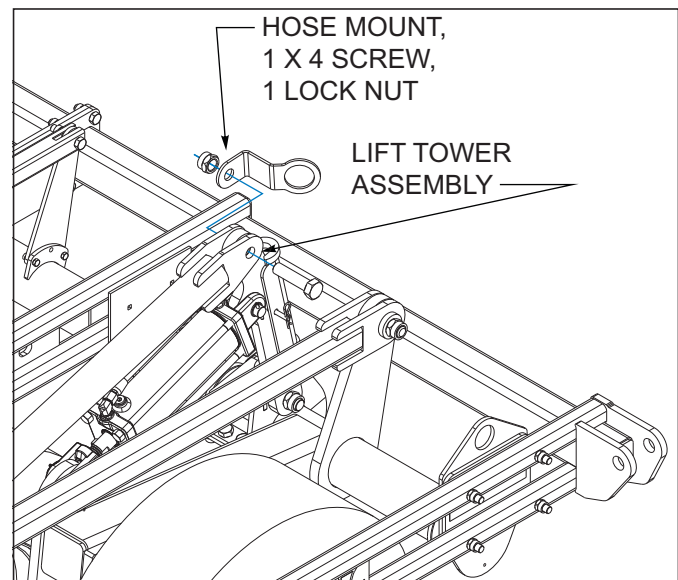
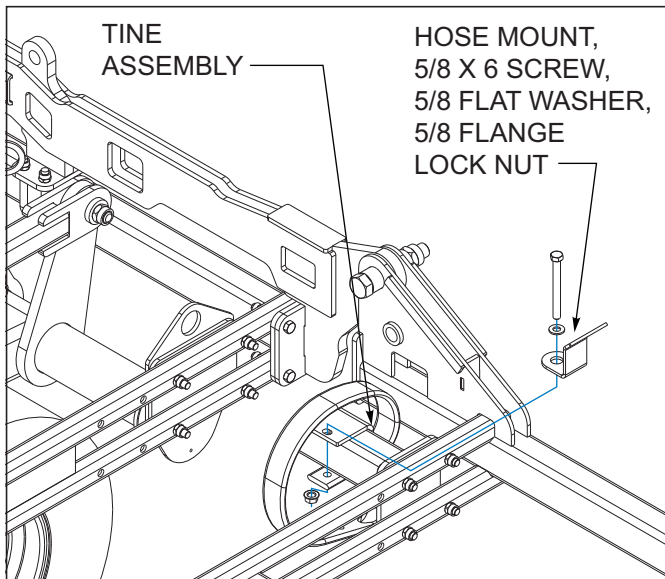
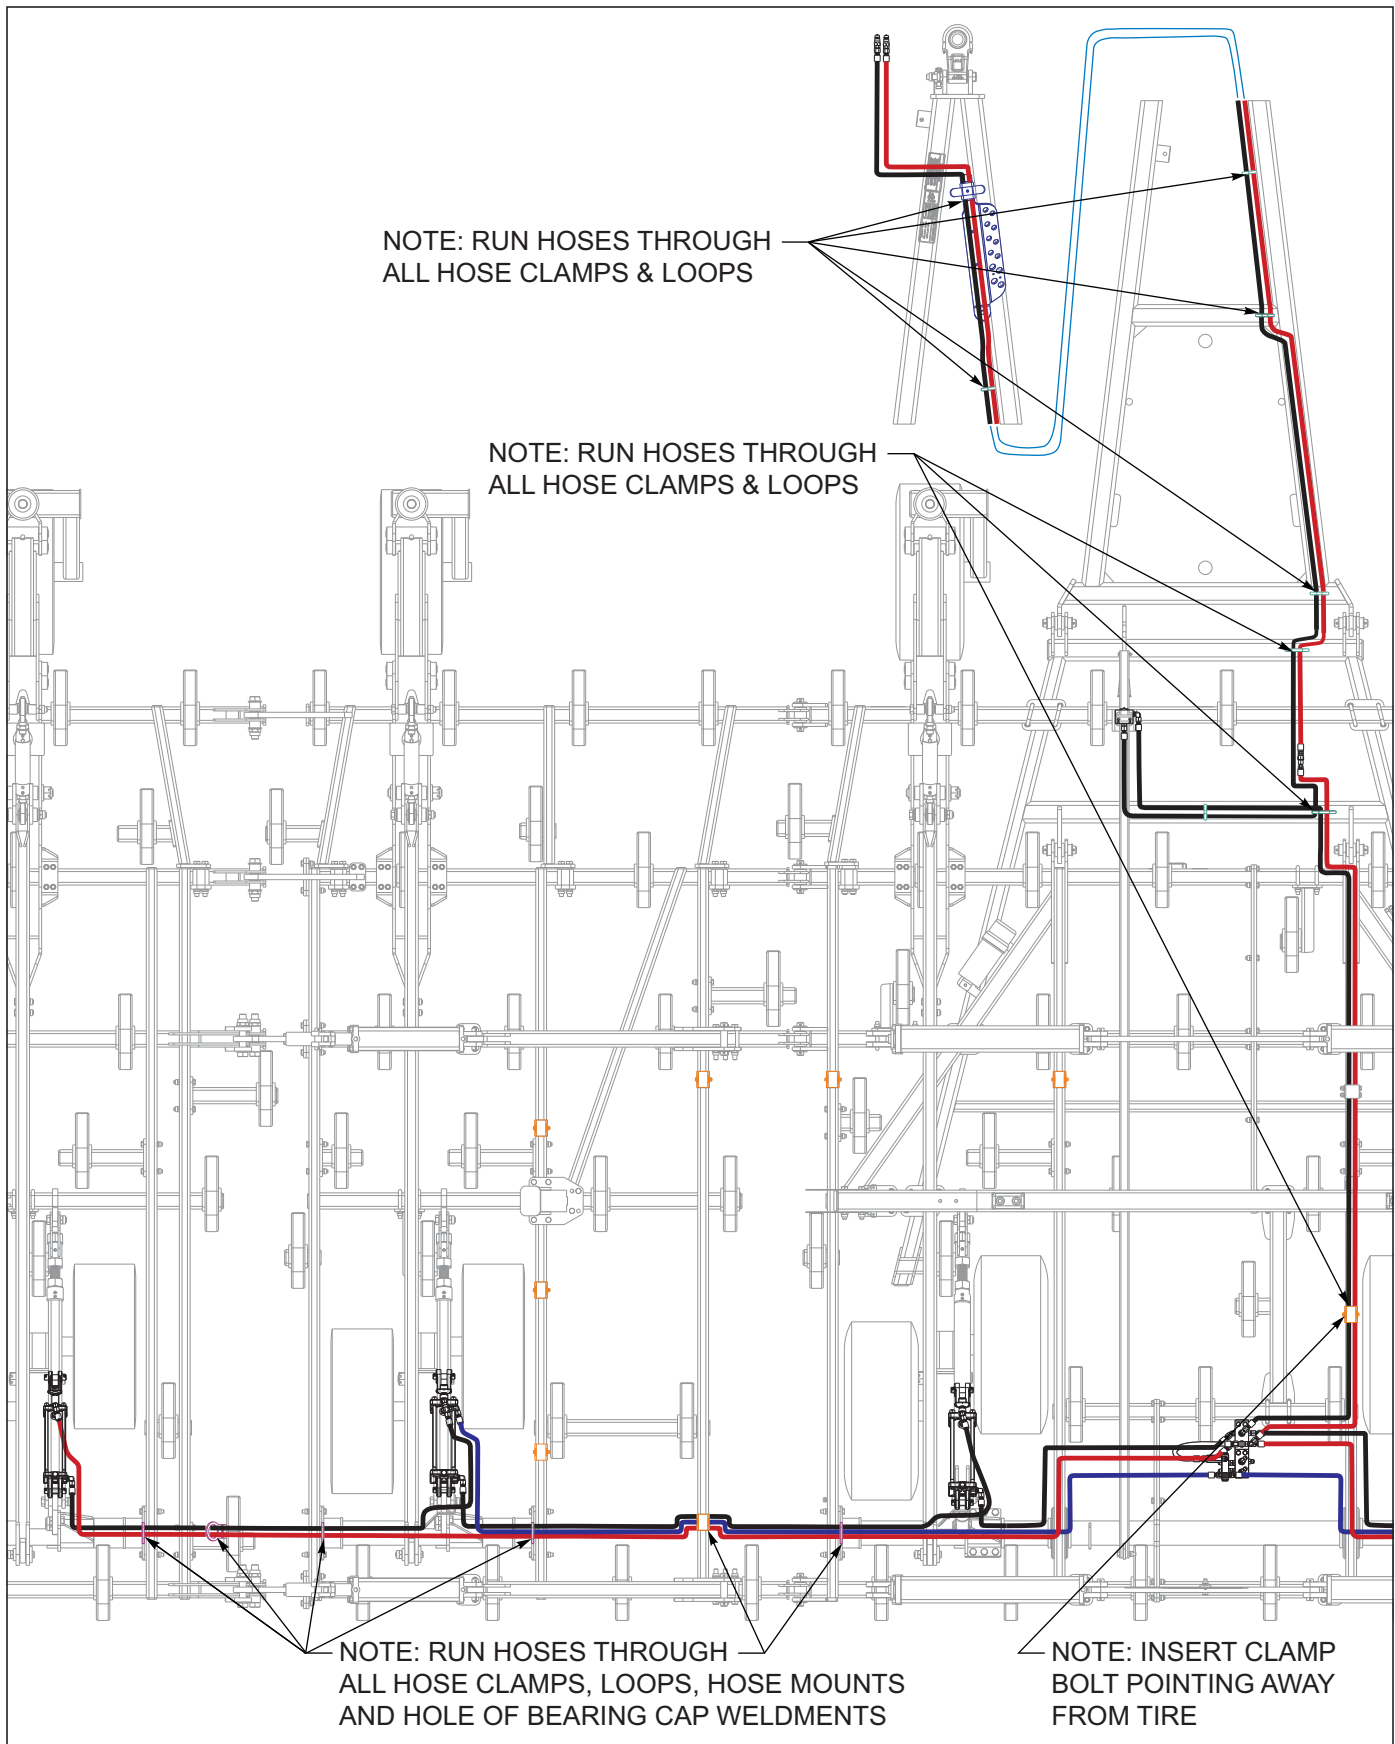
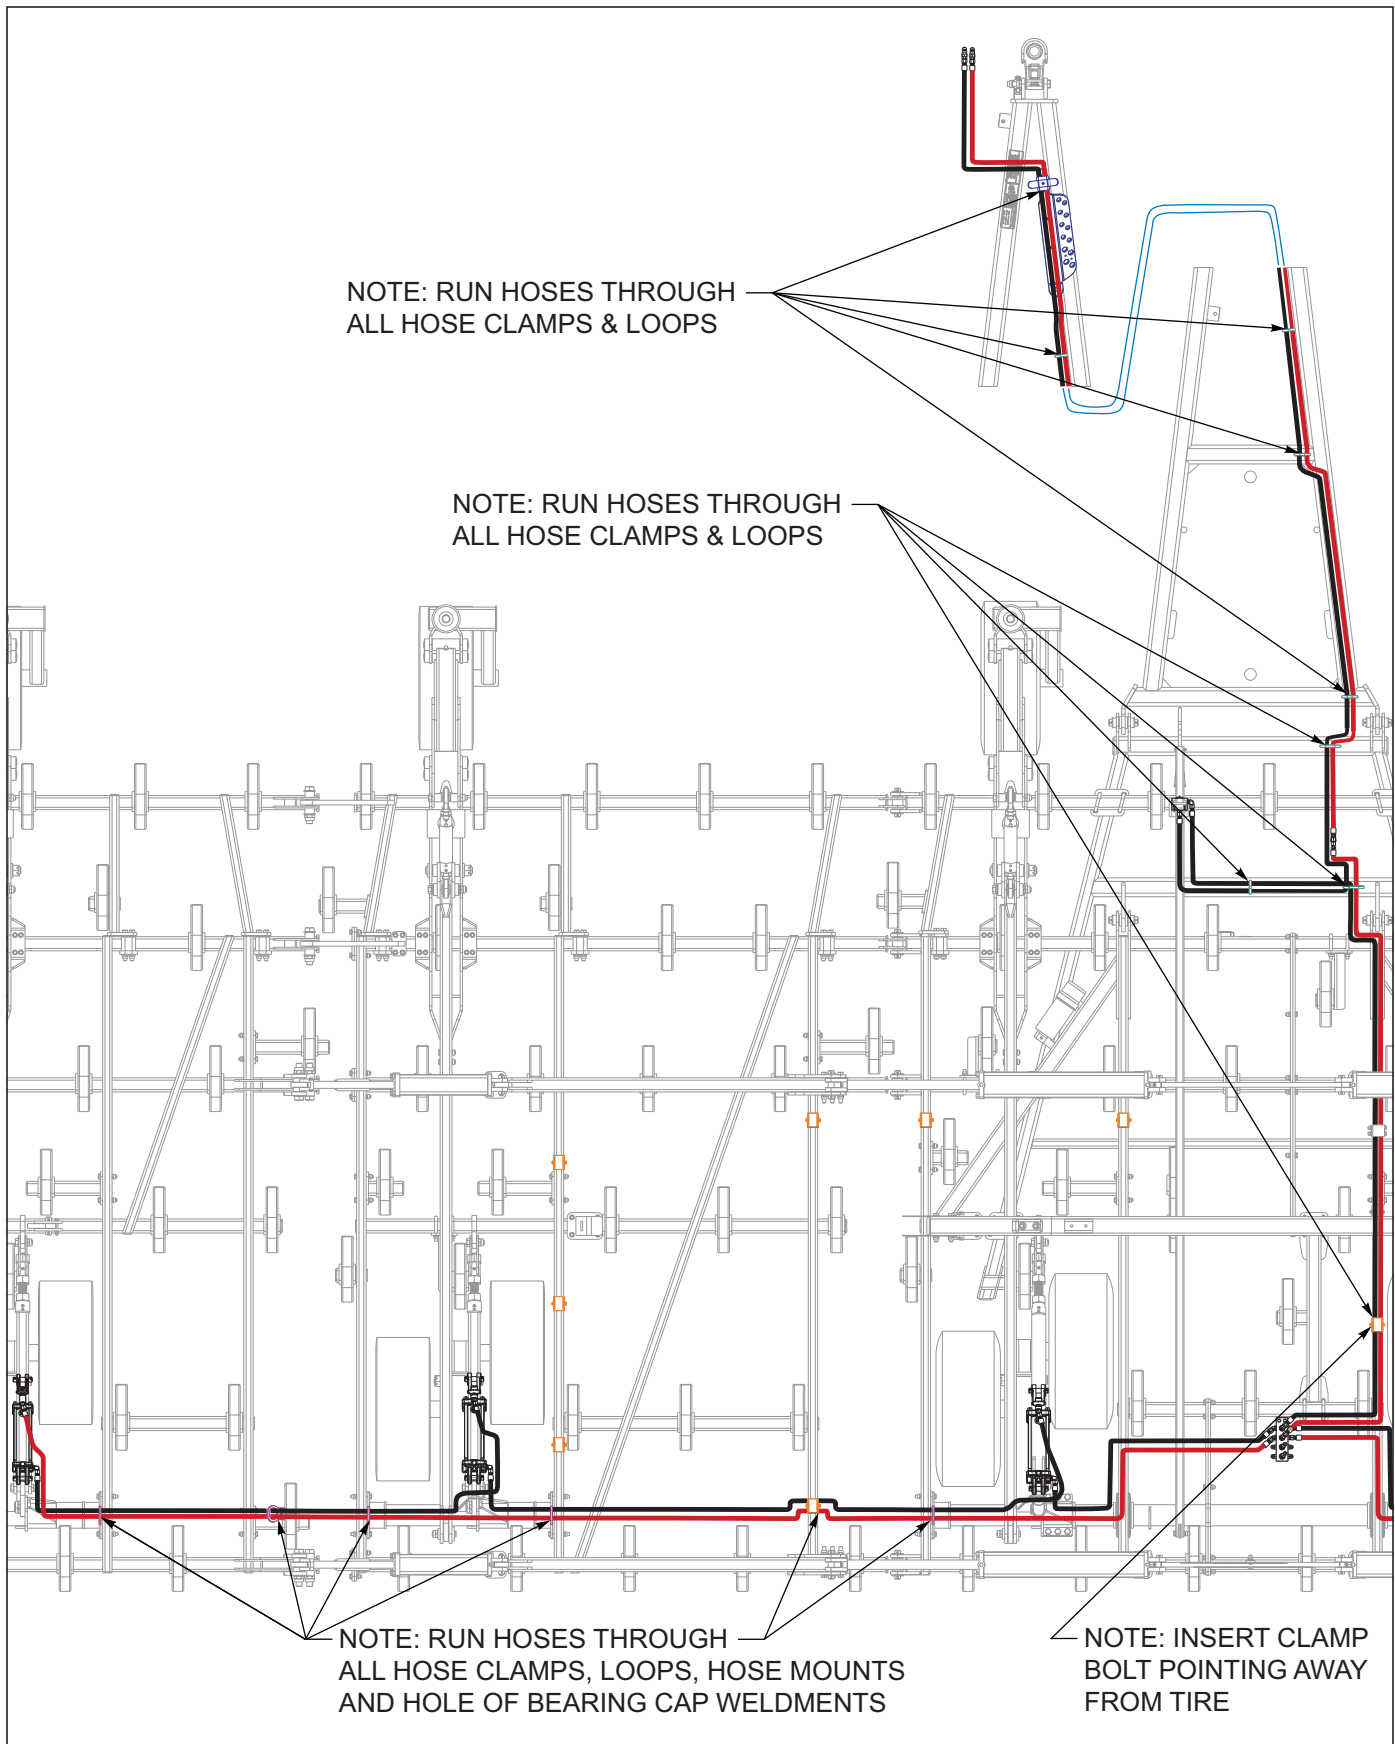

Figure 3-8: Center Hose Mount Installation
Figure 3-9: Outer Wing Hose Mount Installation
Figure 3-14: Hydraulic Lift Layout 9450FH-38' - 42' LH
Figure 3-20: Hydraulic Lift Layout 9450FH-46' - 50' LH
2 hose mounts used on center frame and 1 hose mount on each inner wing **See Figure 3-1** and **See Figure 3-8**, and 1 hose mount on each outer wing **See Figure 3-9**, **See Figure 3-14**, **See Figure 3-20** for placement and orientation.
6. Attach hose mounts to lift tower assemblies with 1 x 4 screws and 1 lock nuts **See Figure 3-8**.
7. Install hose mounts on both outer wings through the tine assembly with 5/8 x 6 screw, 5/8 flat washer and 5/8 flange lock nuts **See Figure 3-9**.